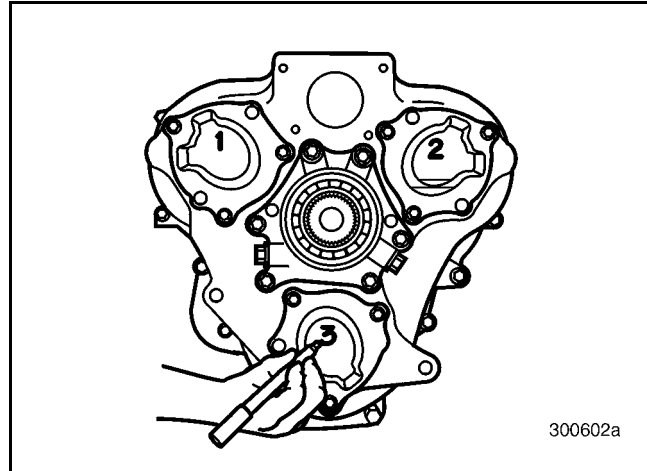
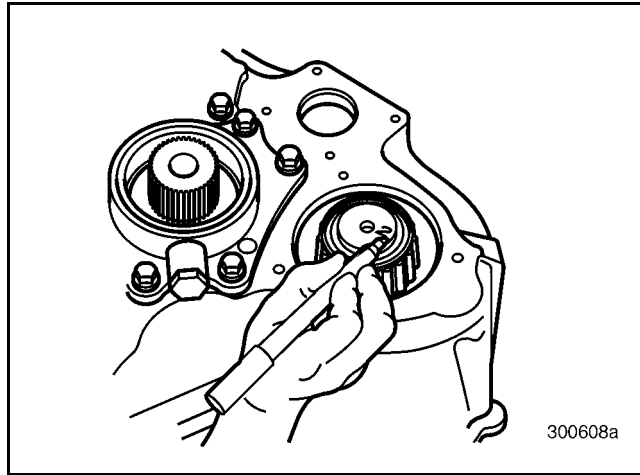

Figure 42 — Mark Rear Countershaft Bearing Covers for Placement
Figure 46 — Marking Rear Countershafts
26. Mark the rear countershafts as shown in Figure 46 so they can be installed in the same position during reassembly. Refer to Figure 42 for number locations.